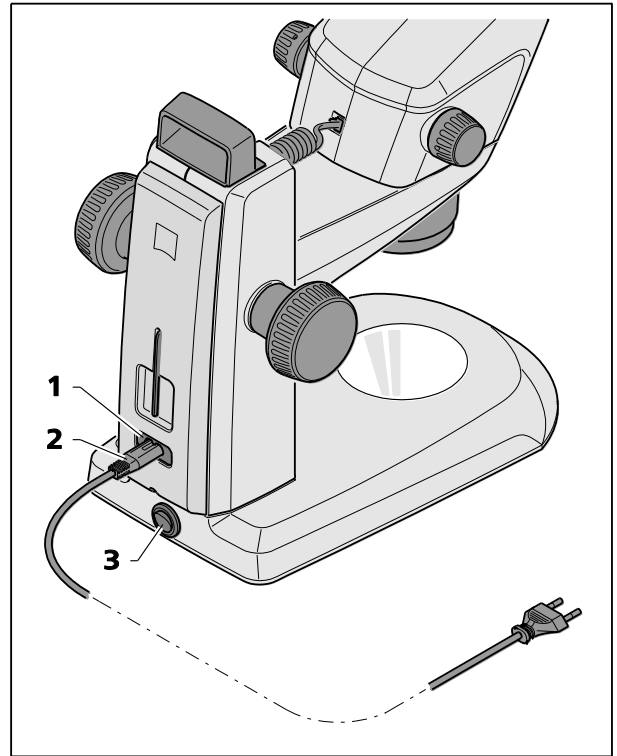

Fig. 17 Connecting the stereo microscope
- Insert the mains cable (Fig. 17/2) in the mains supply socket (Fig. 17/1) of the stand.
- Connect the mains cable (Fig. 17/2) to a mains supply socket outlet.
- Use the power switch (Fig. 17/3) to switch the stereo microscope ON or OFF.